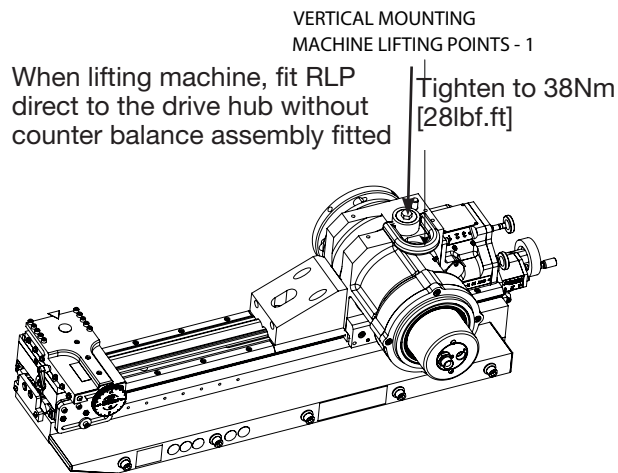

Figure 13: Vertical Lifting
1. Refer to Figure 13 & 14 for machine lifting points and torque values.